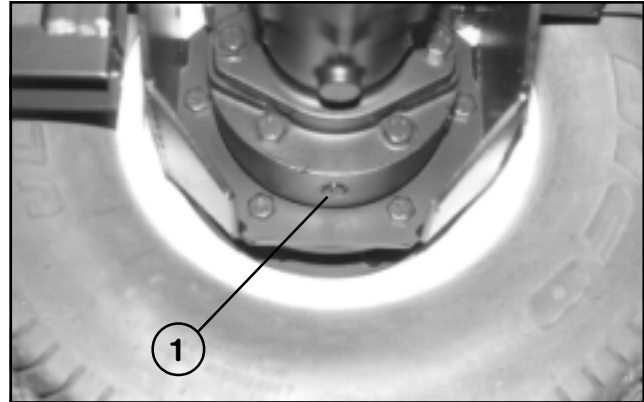

FIG. 46
3. Remove drain plug from bottom of hub on other side of wheel and allow oil to drain into pan. (FIG. 46)